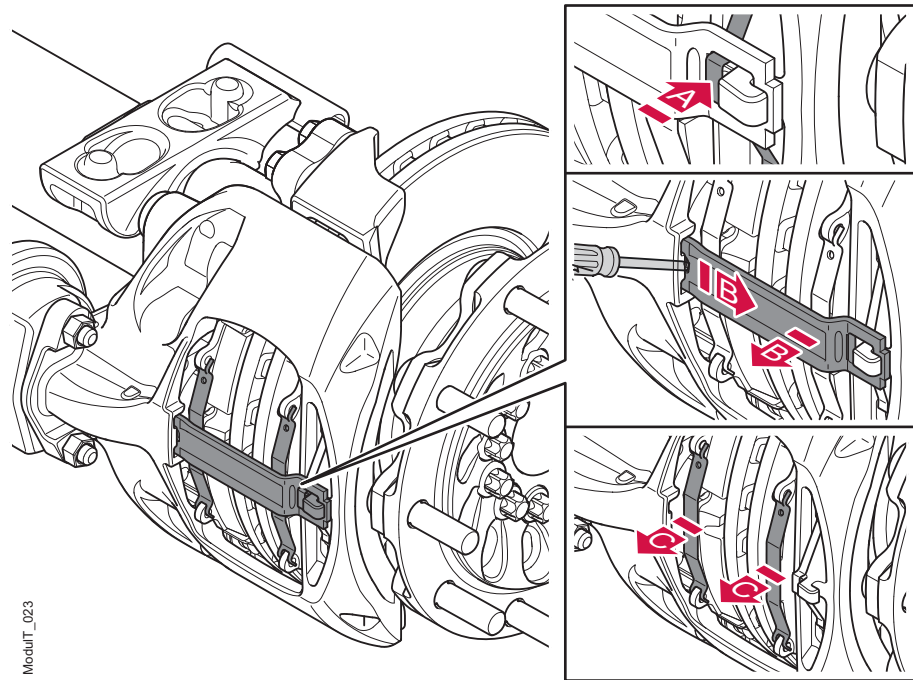

Figure 32. Removal of brake pad components
4. Remove the pad retainer by first pushing and holding down the spring bracket (A), see figure 32. Whilst the spring bracket (A) is held down, slide out and remove the pad retainer (B). A tool can be used to help slide out the pad retainer if unable to do so be hand. Continue to remove the two pad springs (C).